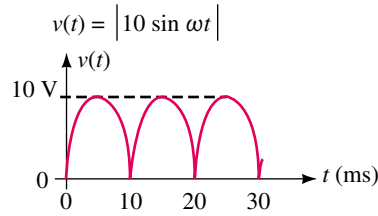

FIGURE 25-55
10. Repeat Problem 7 for the waveform of Figure 25-55.